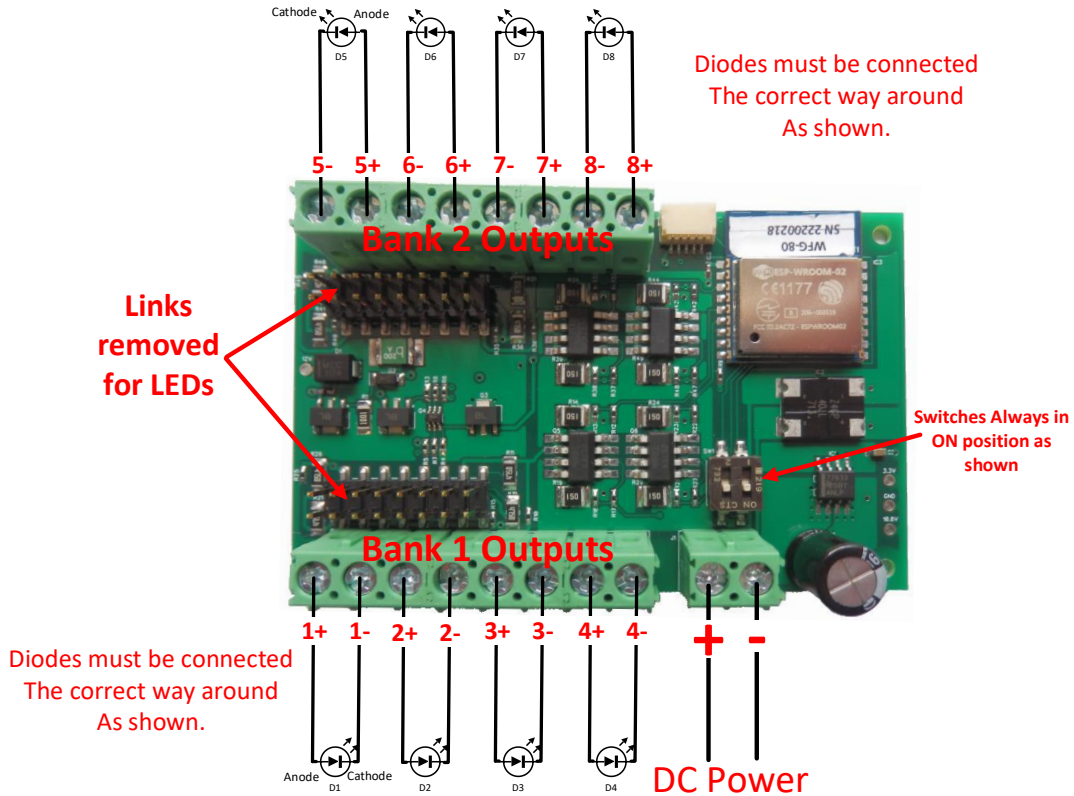
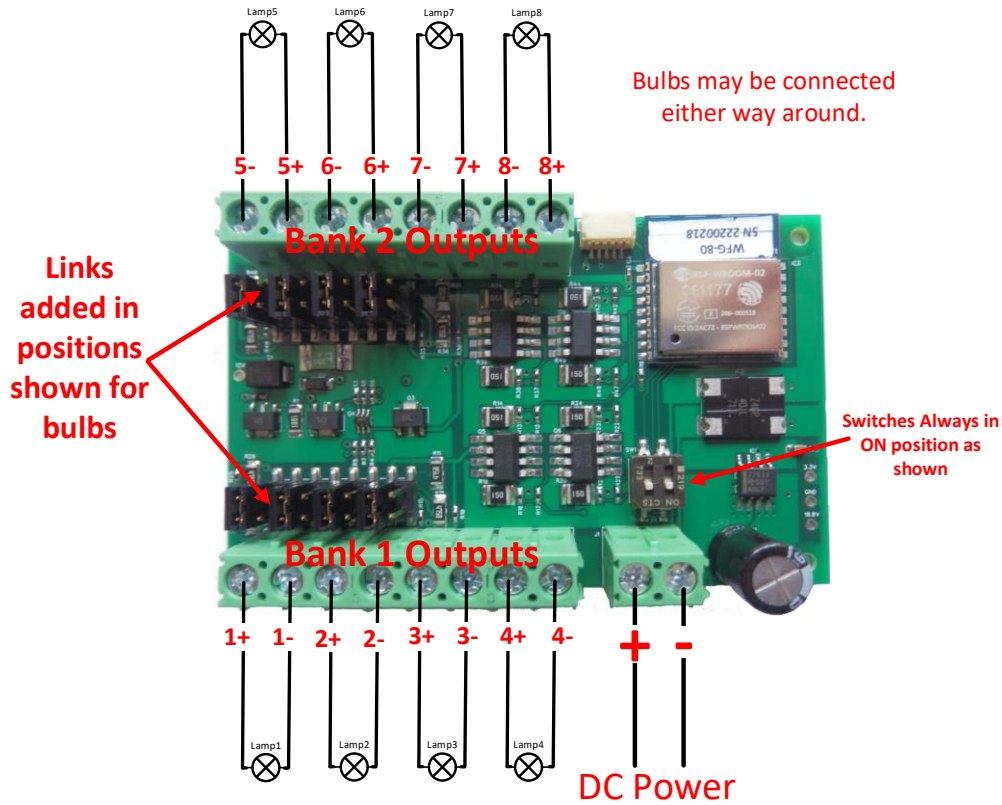
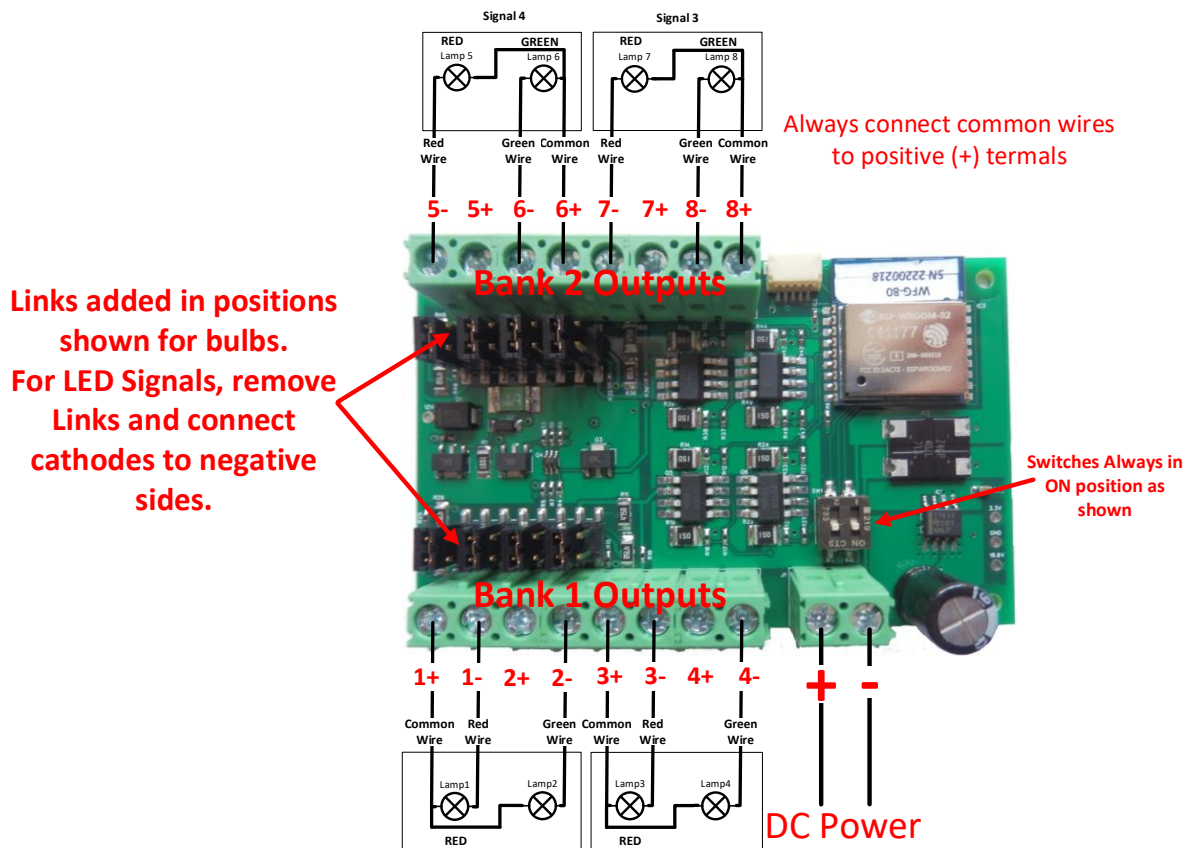
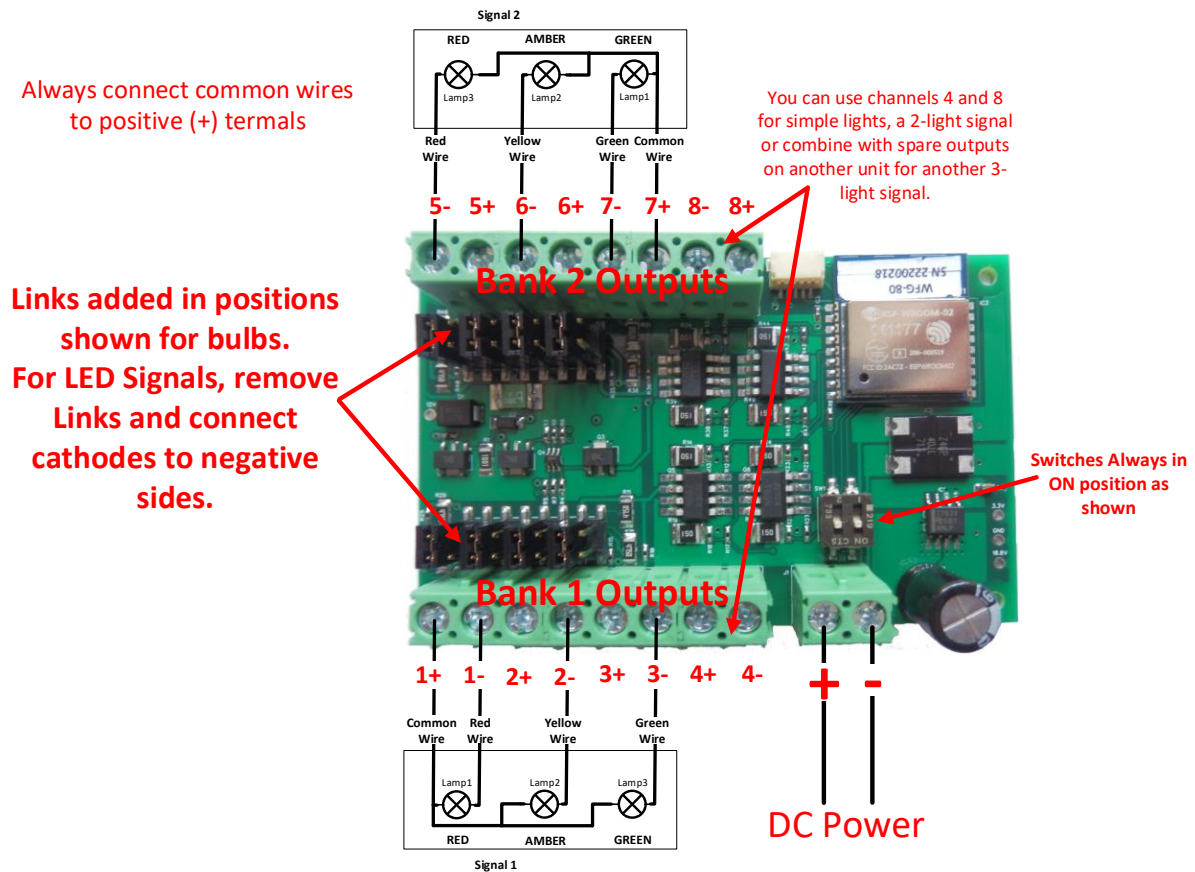

Figure 2. Connection Diagram for LED Lights
Figure 3. Connection Diagram for Grain-of-Wheat Lamps
Figure 4. Connection Diagram for 2-Light Signals
Figure 5. Connection Diagram for 3-Light Signals
- (1) First determine what kind of lights you wish to control. WFG-80 will control two basic types: Light Emitting Diodes (LEDs) and low power filament lamps such as "Grain of Wheat Bulbs". You are advised to use those rated around 12 Volts. Higher voltage bulbs can be used but they will not be very bright. You can make the lights brighter by using a higher power supply voltage such as 15 Volts instead of 12Volts. Also note that you can turn the dimmers to a higher setting using Tower Operator. You can mix LEDs and filament lamps on the same board but you must be careful to place the links correctly. The links provide three options for each channel, Direct, 475 Ohm series resistor and 1000 Ohm series resistor. If you use LEDs you **MUST** use the 475 or 1000 Ohm option for those channels. Direct mode will **DESTROY** LEDs. If you use filament lamps you need to use Direct mode for those channels or the lamps will be very dim. Table 1 shows the link settings. You can also combine channels to control features with multiple lights like signals. Tower Operator allows you to assign channels to the signal device on the screen once it is physically connected.
- (2) Wire the WFG-80 to your lights or signals according to Figure 2, Figure 3, Figure 4 or Figure 5. If you have multiple types of device, you can take account of more than one figure. Be sure to connect common wires to the positive side of each of the eight channels.
- (3) Note that each of the two banks can be dimmed independently through software using the Tower Operator app.
- (4) Note that the two DIP switches must be always in the On position. These are only used for factory configuration.
- (5) Connect power to your unit at TRKA and TRKB as shown in Figure 2, Figure 3, Figure 4 or Figure 5. It does not matter which way round you connect the power. You can also use DCC track power but NOT AC. The power should be between 12 and 18 volts.